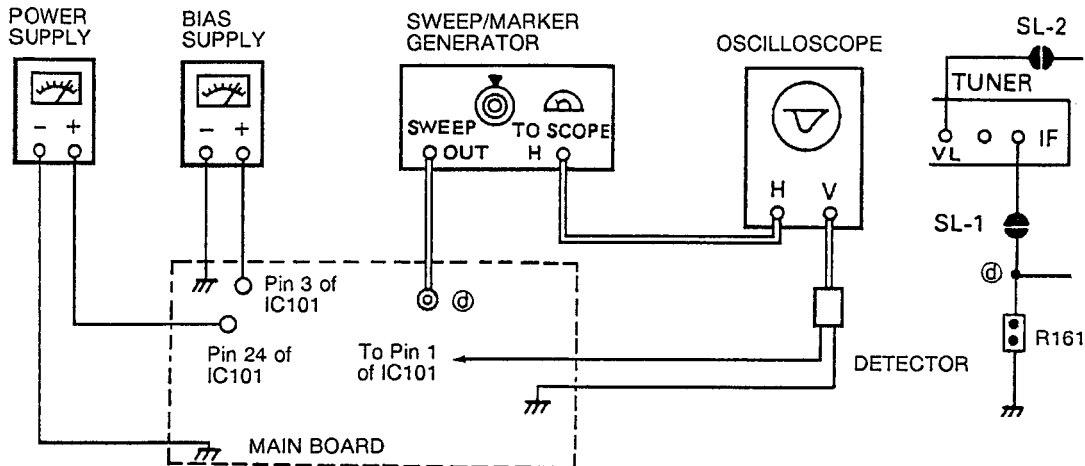

Figure 4. Picture IF Sweep Alignment
GENERAL..... Refer to figure 4 for test equipment connection.
SWEEP/MARKER GENERATOR..... Connect to the point ④ as shown in figure 4 on the Main Board.